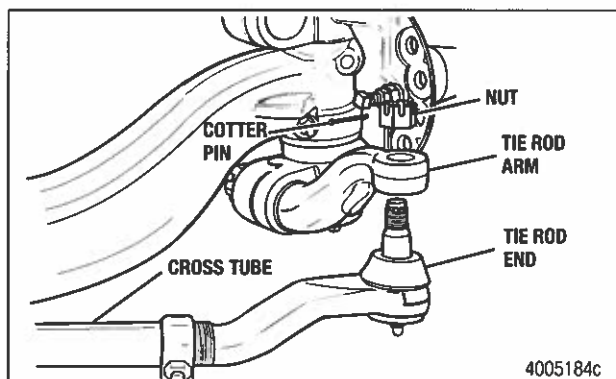

Figure 2
4. Remove the cotter pin and nut that fastens the tie rod end to the tie rod arm. Figure 2.
5. Disconnect the cross tube assembly from the tie rod arm. If available, use a tie rod end puller to separate the tie rod end from the tie rod arm. Figure 2. If necessary, use a leather or plastic mallet to tap on the end of the tie rod arm.